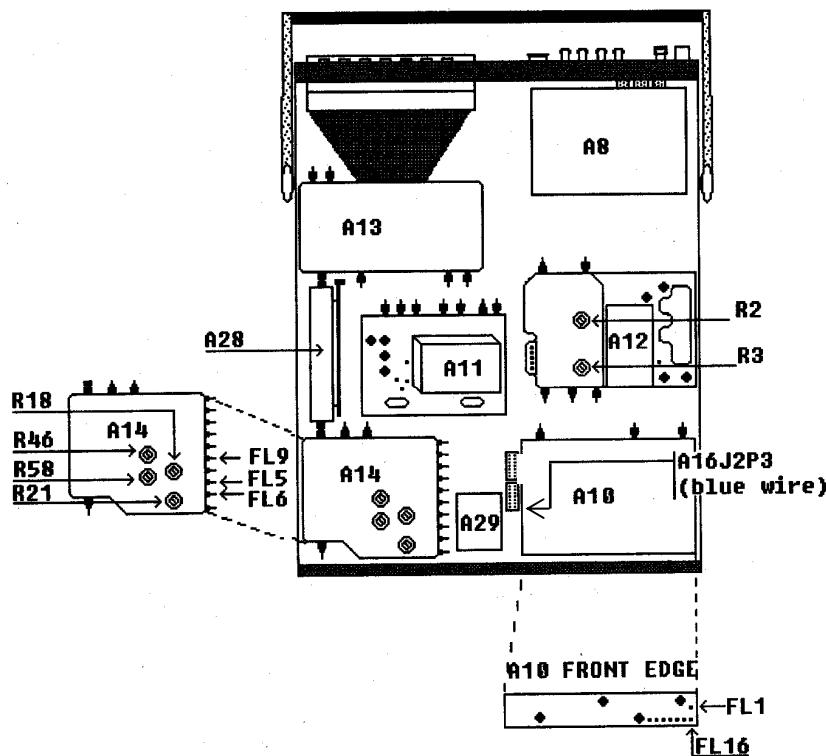

Figure 5. Test instrument - bottom view.
A12R2 and A12R3 (fig. 5) are interactive and adjustment will be extremely sensitive.
(32) Alternately adjust A12R2 and A12R3 (fig. 5) on receiver IF module for minimum amplitude of the 1st LO signal -50 dBm maximum (R).
(4) Stand TI on end and locate power term, A14 (fig. 5) in lower left hand corner.
(5) Press **MODE MTRS** (Meters Menu) key and **DATA ENTRY 3** key (Pwr Meter (Pulse/CW)).
(6) Press **Range (F1)** and **DATA SCROLL** arrow keys to select **2 W** range, then press **DATA ENTRY ENTER** key.
(7) Connect a 50Ω load to TI T/R.
(8) Connect multimeter to A14FL9 (fig. 5) RF power level output, and set multimeter to measure V dc.
(9) Adjust A14R21 (fig. 5) for a multimeter indication of 20 mV dc ± 2 mV (R).
- (10) Press **Range (F1)** key, press **DATA SCROLL** arrow keys to select **200 W** range. Press **DATA ENTRY ENTER** key.
- (11) Adjust A14R18 (fig. 5) for a multimeter indication of 10 mV dc ± 2 mV (R).
- (12) Press **Range (F1)** and **DATA SCROLL** arrow keys to select **2 W** range, and press **DATA ENTRY ENTER** key.
- (13) Remove the 50Ω load from TI **T/R**.
- (14) Connect measuring receiver sensor module to RF power amplifier **OUTPUT** using 10 dB attenuator (fixed).
- (15) Adjust signal generator frequency to 85 MHz and output to 10mV. Adjust RF power amplifier gain to minimum then adjust gain and signal generator output until measuring receiver indicates exactly 33 dB (2 W) minus 10 dB attenuator (fixed) insertion loss.